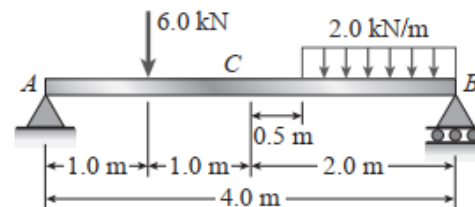

Figure 2
- 4 Draw the shear force and bending moment diagrams for the given beam (Figure 2) [14M]